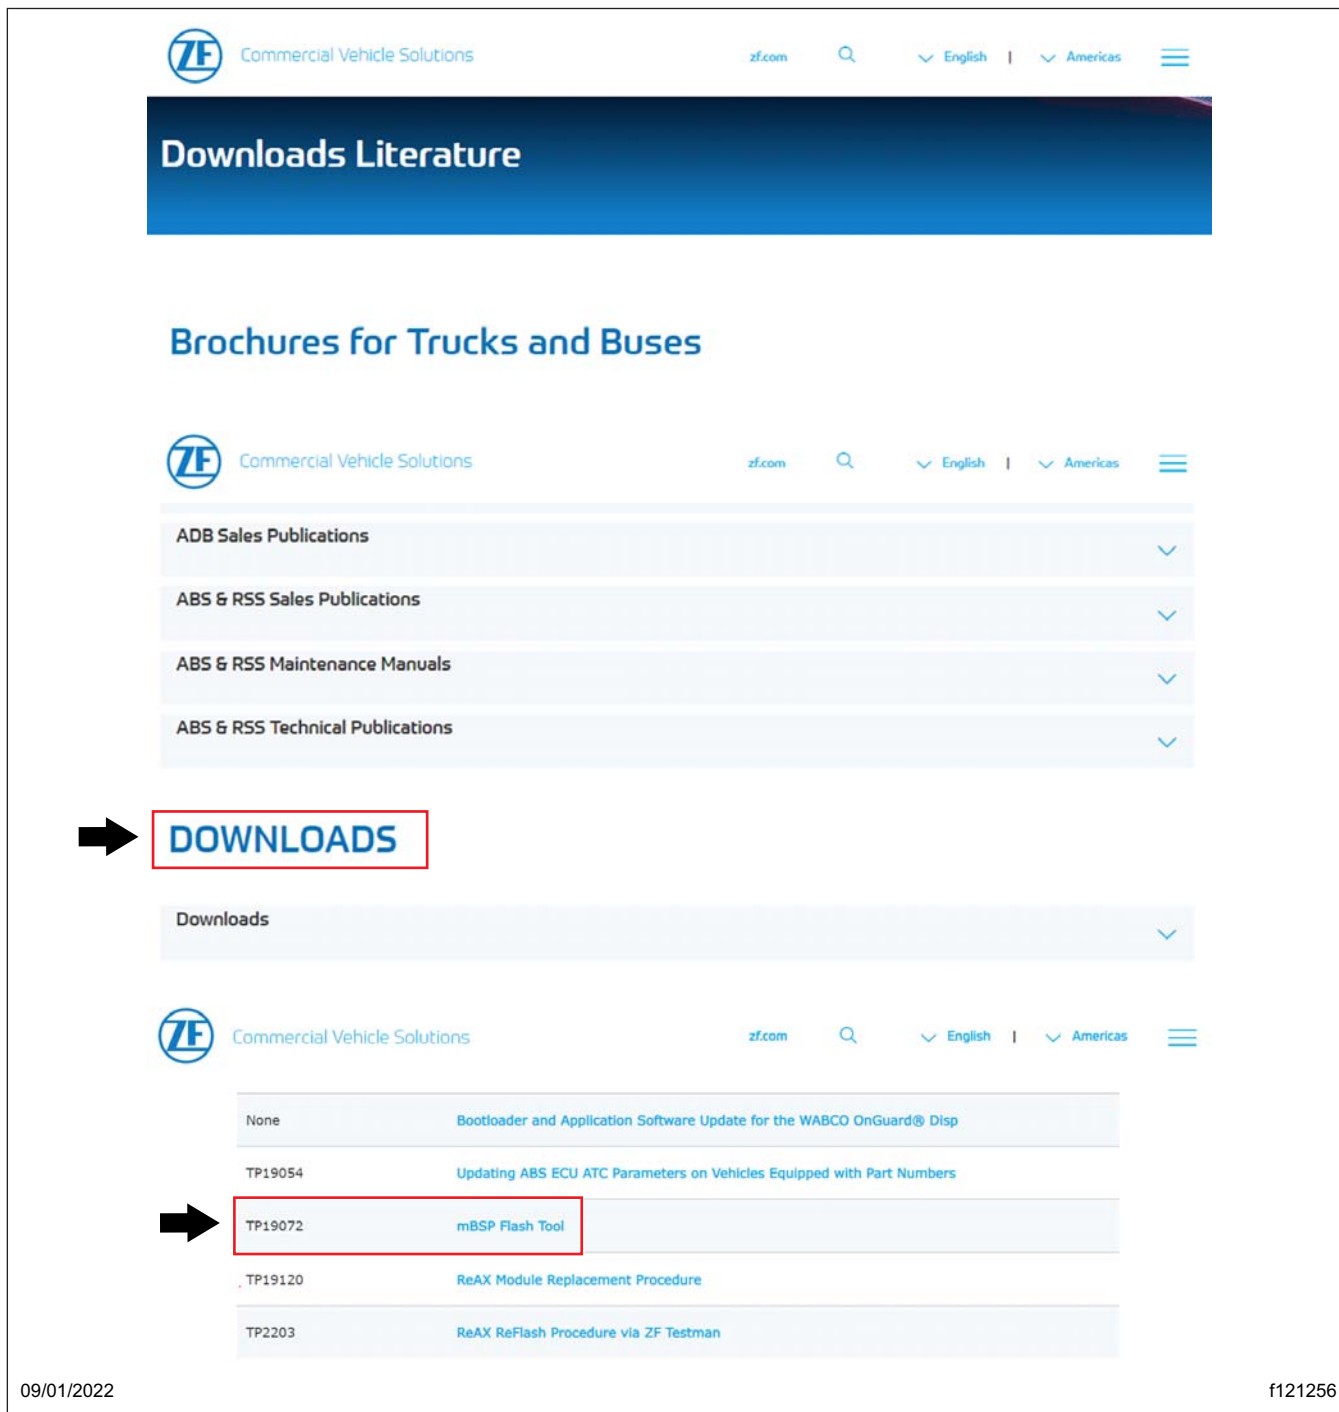

Fig. 1, mBSP Flash Tool Link in Downloads Section
- 5.2 Scroll down to the 'Downloads' section, and select 'mBSP Flash Tool.' See Fig. 1.